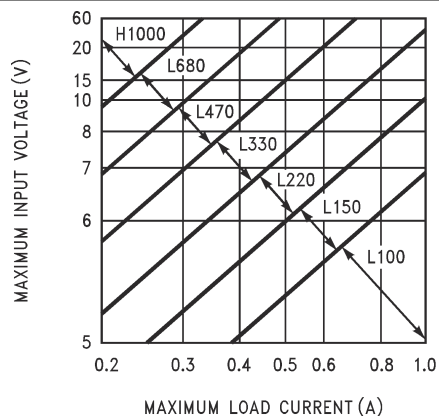
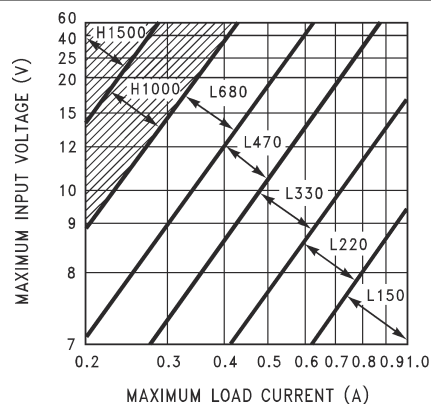
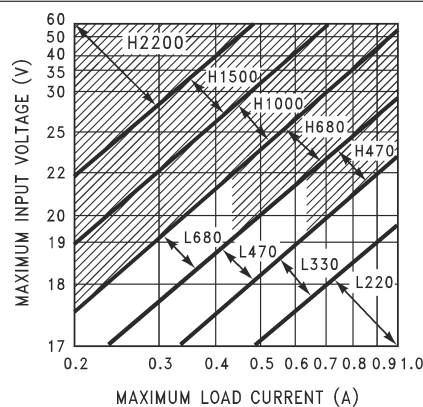

Figure 9-2. TL2575-33
Figure 9-3. TL2575-50
Figure 9-5. TL2575-15
1. Inductor Selection (L1) A. From Figure 9-2 through Figure 9-5 , select the appropriate inductor code based on the intersection of $V_{IN(\text{Max})}$ and $I_{LOAD(\text{Max})}$. B. The inductor chosen should be rated for operation at 52-kHz and have a current rating of at least $1.15 \times I_{LOAD(\text{Max})}$ to allow for the ripple current. The actual peak current in L1 (in normal operation) can be calculated as follows: $I_{L1(pk)} = I_{LOAD(\text{Max})} + (V_{IN} - V_{OUT}) \times t_{on} / 2L1$ Where $t_{on} = V_{OUT} / V_{IN} \times (1 / f_{osc})$	1. Inductor Selection (L1) A. From Figure 9-3 (TL2575-05), the intersection of 20-V line and 1-A line gives an inductor code of L330. B. L330 \rightarrow L1 = 330 μ H Choose from: 34042 (Schott) PE-52627 (Pulse Engineering) RL1952 (Renco)